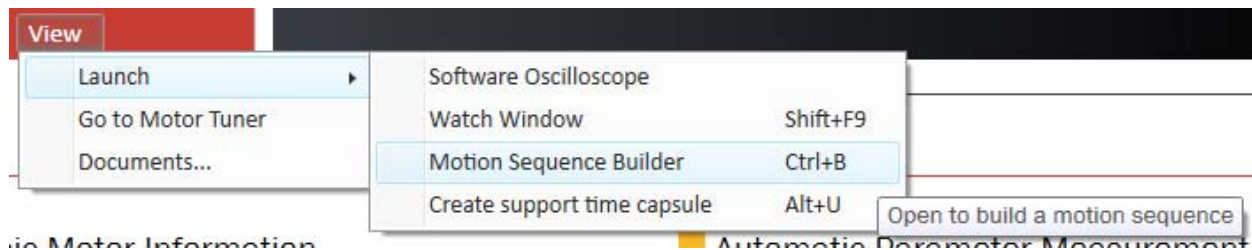

Figure 154. View menu with start Motion Sequence Builder command highlighted
- the KMS View Menu (Figure 154)